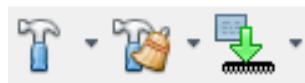

Figure 18: MPLAB X Clean and Build Main Project button
4. Go to **Run** → **Clean and Build Main Project** or click the *hammer with brush* button as seen in Figure 18. After building there should be a message BUILD SUCCESSFUL in the message area at the bottom of the screen.
5. If the build process was successful go to **Run** → **Run Main Project** or click the *Green Arrow* button as seen in Figure 18. If there is a message similar to *MICROSTICK not Found* try to select the *Starter Kits (PKOB)* item which represents your board.